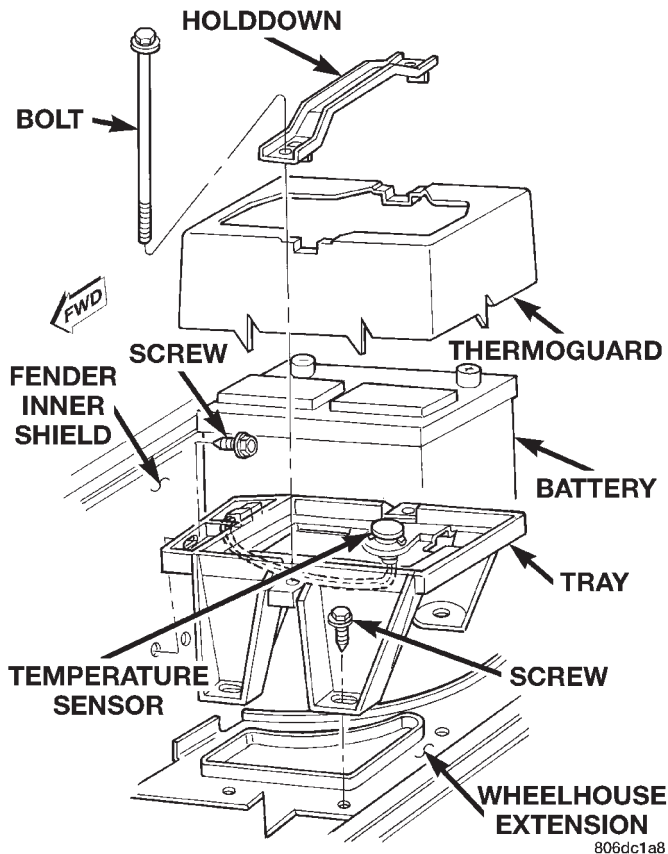

Fig. 18 Battery Holddowns
(4) Remove the battery holddowns and remove the battery from the vehicle (Fig. 18).